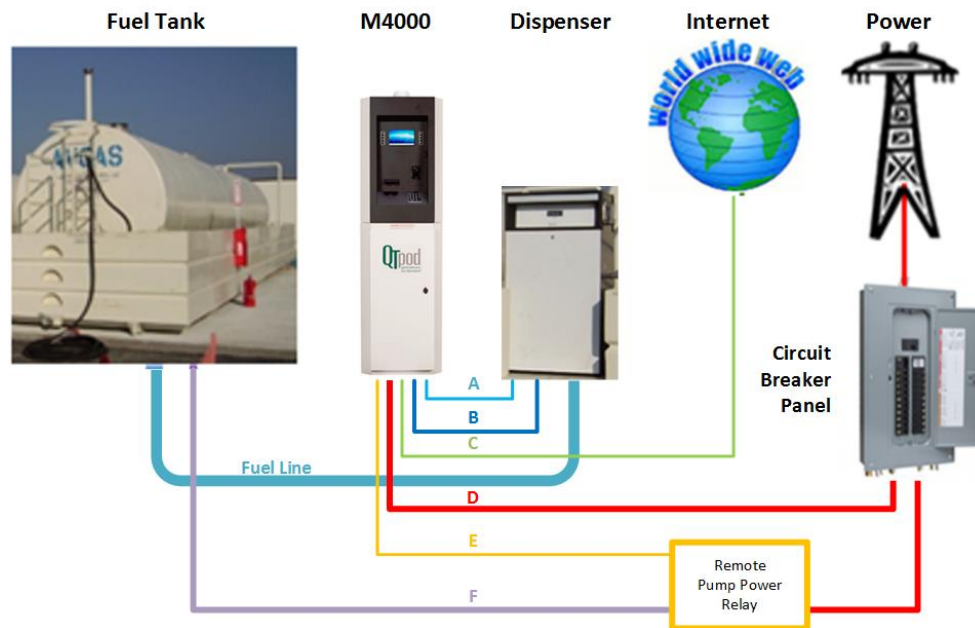

Figure 7 - Dispenser Field Wiring Diagram - Option A
6. The DPI board is not designed to directly drive pump motors. We require the use of high current relays (sometimes referred to as contactors) on the pump control output circuits (P1/P2, etc.) to keep the terminal electronics isolated from high current drawn by fuel pump motors. See Figures 7 & 8 for examples of relay placement. QTpod recommends using solid-state relays (SSRs) as they do not generate electrical arcing noise. They are required if the relays are located within the pedestal, where the electrical noise can adversely affect the digital electronics (Contact QTpod support for SSR recommendations).
Typically, your conduit and wiring layout will look like either "Option A" or "Option B" depicted in (Figures 7 & 8). Use them as a starting point to map out your actual wiring requirements. Keep in mind, these are recommendations only. You are responsible for Electrical Code compliance. It is strongly recommended you consult and/or contract with a qualified electrician as you proceed with this work.